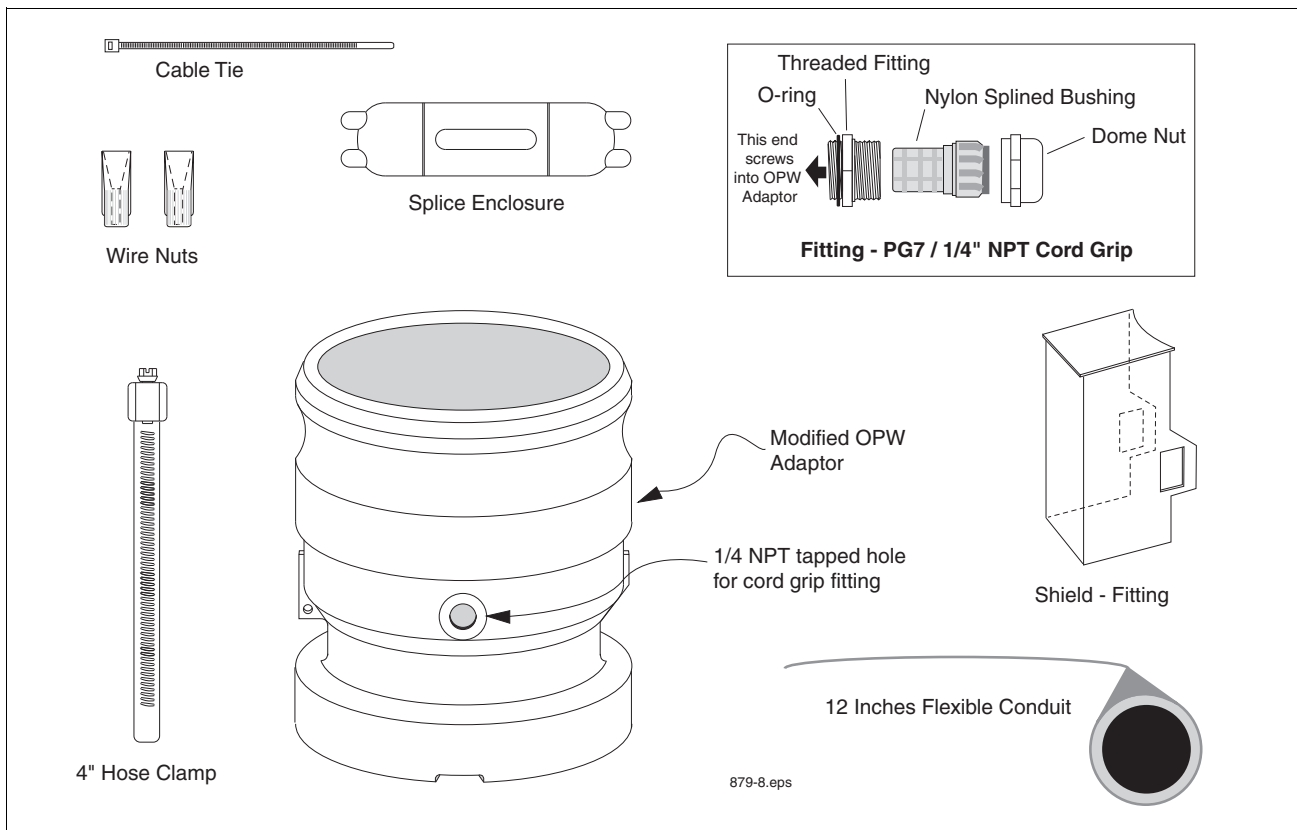

Figure 9. Mag Probe Vapor Extractor W/coupling Adaptor Installation Kit
This kit contains parts needed to install a Mag Probe into a Vapor Extractor Riser that has a Coupling Adaptor (parts listed in Table 5 and shown in Figure 9):
10. Slip the PG7 cord grip fitting (o-ring end first) over the cable and screw it into the tapped hole in the Coupling Adaptor (ref Figure 9 on page 16 for the correct PG7 cord grip assembly). Tighten snugly - **Be careful not to overtighten**. Slide the domed nut of the PG7 fitting down the cable and tighten securely onto the PG7 fitting so that the cable stays firmly in place. **Again, be careful not to overtighten**.